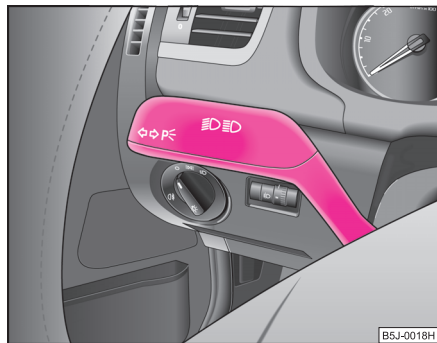

Fig. 39 Turn signal and main beam lever
- Press the main beam lever forward in order to switch on the main beam $\Rightarrow$ page 60, fig. 39.
- Push the lever upwards or downwards $\Rightarrow$ fig. 39.